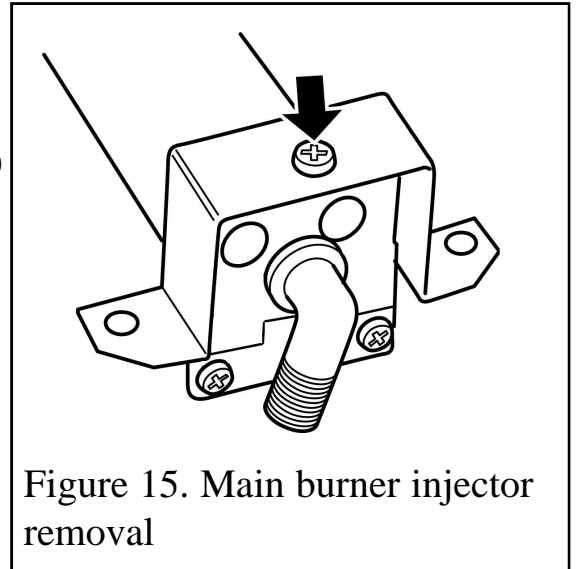

Figure 15. Main burner injector removal
(See figure 15).
2. Remove the burner clamping screw (See figure 15)